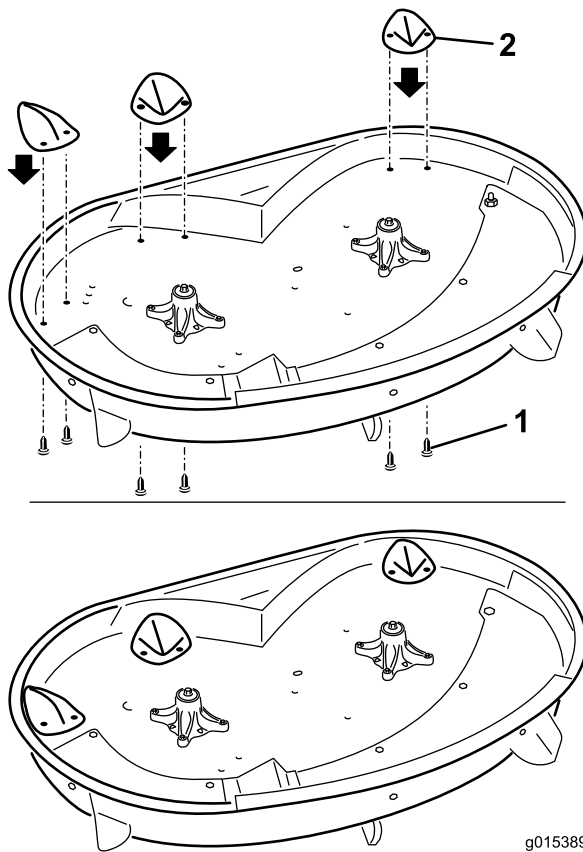

Figure 3
1. Align the three kicker plates with holes toward the top of the mower (Figure 3). The long slope of the kickers must be face inward.
2. Secure the plates to the mower using six Phillips head screws (#8 x 5/8 inch). The screws come up through the top of the mower and into the plates (Figure 3).